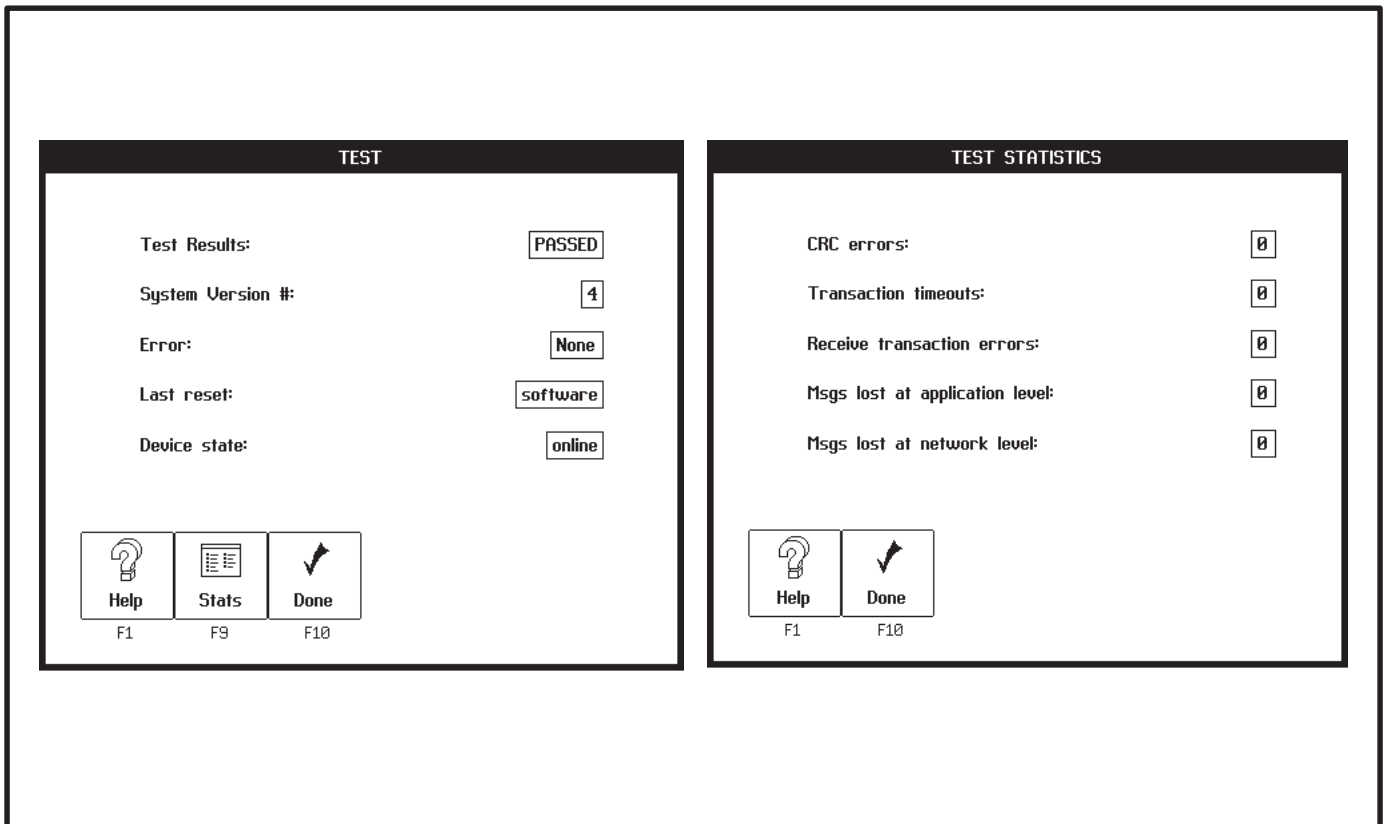

FIGURE 3-17. TEST SCREENS
3. Click on the Test (F3) action button. The TEST screen appears (Figure 3-17).